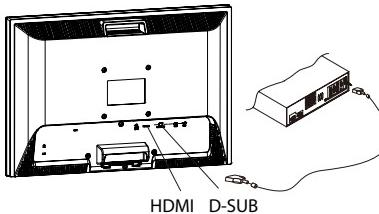

Figure 1-5
2. Connect one end of the signal cable to the LCD Monitor's VGA port or HDMI port. (See Fig 1-5)